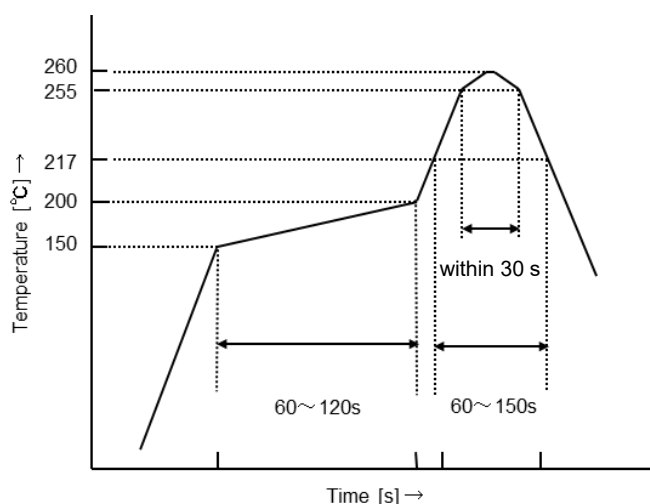

Figure 3.5.1 Example of Temperature Profile
- (1) It is recommended the top and bottom heating method with long or medium infrared rays.
- (2) The maximum package surface temperature is 260°C. The duration where package surface temperature is 255°C or more must be no longer than 30 seconds.
- (3) Refer to Figure 3.5.1 for an example of a temperature profile.
The maximum package surface temperature is 260°C. The duration where package surface temperature is 255°C or more must be no longer than 30 seconds. For an example of a temperature profile, refer to Figure 3.5.1 above.